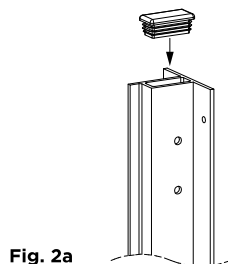

Fig. 2a
2. Install the top and bottom end caps. **Fig 2a.** Note: Use pliers to bend the tabs and rubber mallet to drive the end cap into the wall post.